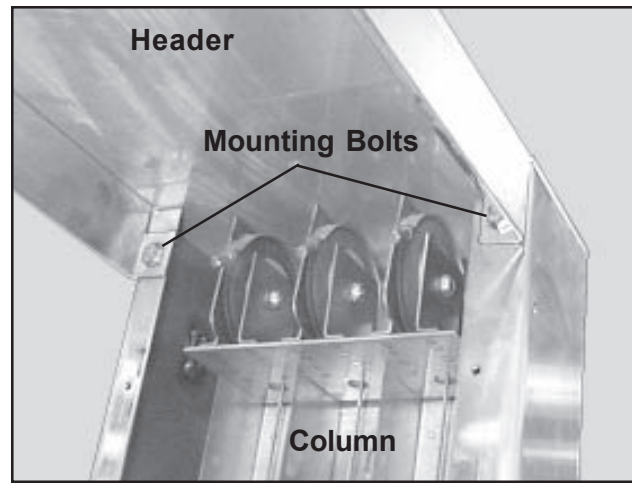

Figure 7. Header Mounted on Column
2. Secure the header in place with two bolts and washers at each end (Figure 7).